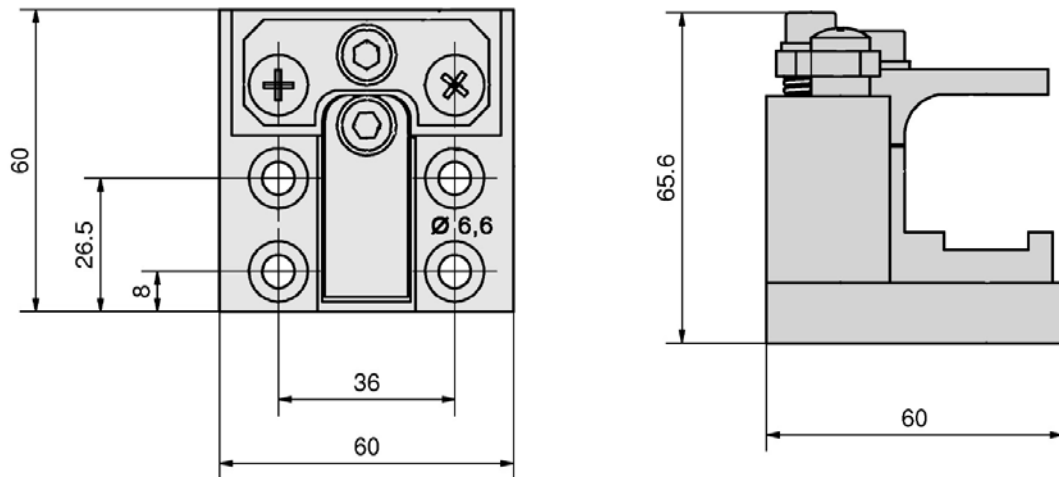

Fig. 11: Lift table
- Demagnetization coil with roller guide to test wires (in combination with the long flexible holder) (see Figure 11)